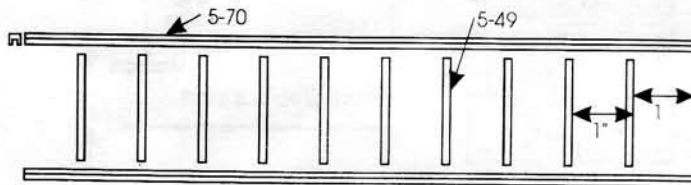

Figure 39
- c. Assemble ladder as shown in Figure 39.